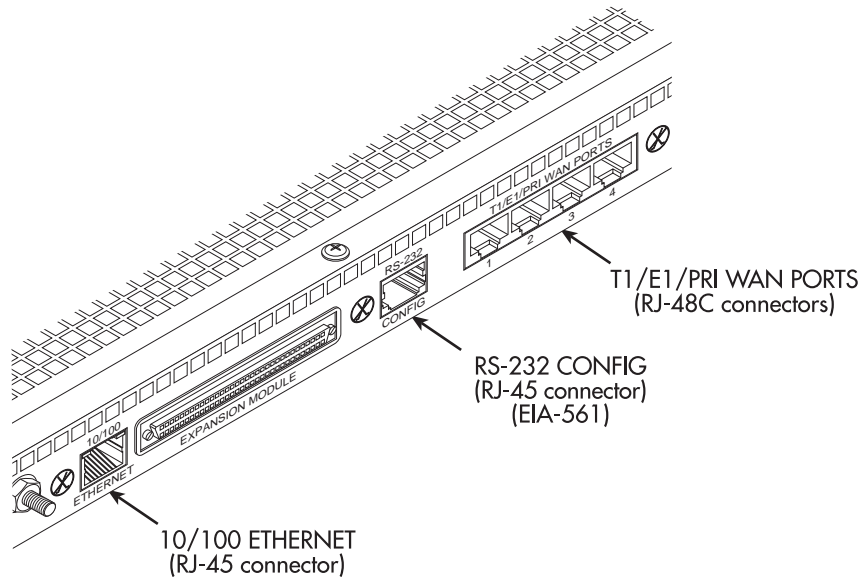
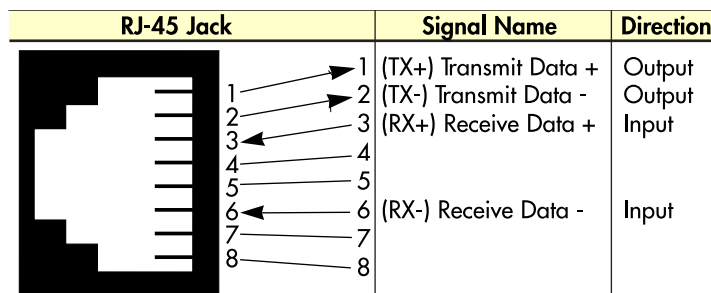
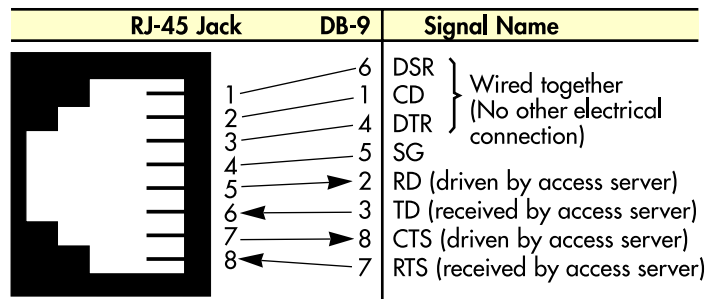

Figure 8. Model 2960/2996 network and configuration ports
Figure 9. Straight-through RJ-45-to-RJ-45 Ethernet cable diagram
Figure 11. DB-9-to-RJ-45 cable diagram
The RAS has a single 10/100 Ethernet interface for connection to your LAN (see figure 8). The Ethernet port will autosense the correct speed of the local LAN and automatically negotiate half- or full-duplex operation. This section describes connecting the RAS to the Ethernet LAN via an Ethernet hub, switch, or workstation.
The 10/100Base-T Ethernet port (see figure 8 on page 25) is designed to connect to an Ethernet switch or hub. Connect a straight-through CAT-5 cable (one wired as shown in figure 9) between the RAS and the hub/switch.
Install the supplied DB-9-to-RJ-45 cable between the RAS RS-232 port (see figure 8 on page 25) and an open serial port on your computer. If you need to assemble your own cable, refer to the pinout diagram in figure 11.
1. If you have not done so already, install the supplied DB-9-to-RJ-45 cable between the RAS RS-232 port (see figure 8 on page 25) and an open serial port on your computer.